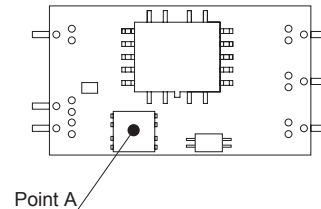

Fig.8.15 Temperature Measuring Point in the case of Forced Air Cooling
(3) Temperature Measuring Points in the case of Forced Air Cooling (1m/s)
① SU10
■ In the case of forced air cooling, please have sufficient ventilation to keep the temperature of point A in Fig.8.15 at 105°C or below.